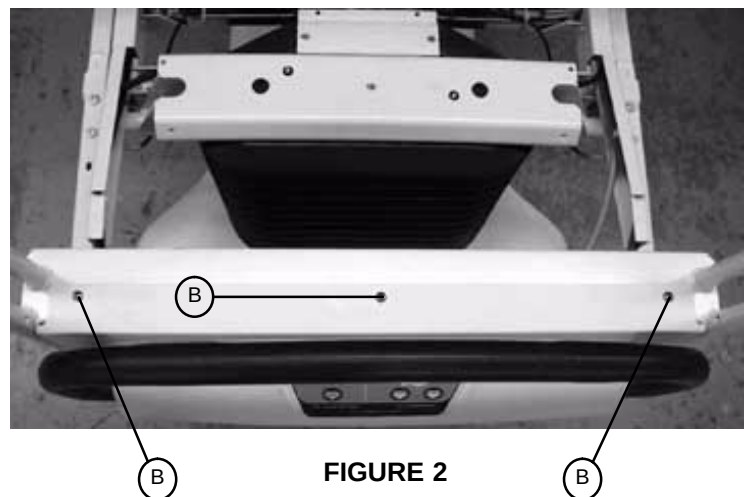

FIGURE 2
6. Using a #2 Phillips screwdriver, remove the three screws (B) holding the control bar cover to the head end of the bed (see Figure 2).